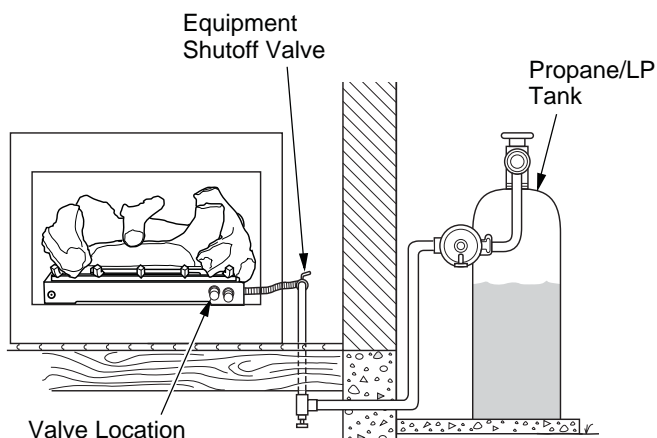
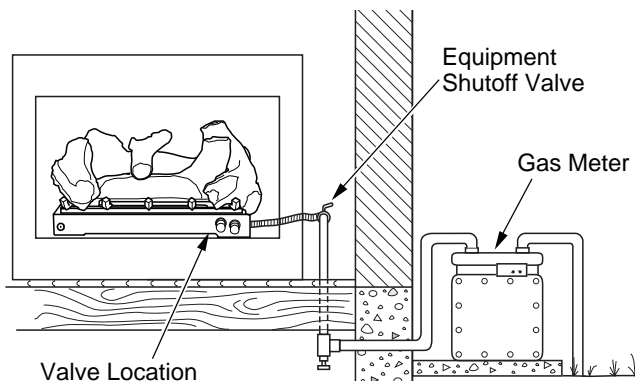

Figure 16 - Checking Gas Joints
Figure 17 - Checking Gas Joints
3. Check all joints from propane/LP supply tank to equipment shutoff valve for propane/LP gas (see Figure 16, page 13) or from gas meter to equipment shutoff valve for natural gas (see Figure 17, page 13). Apply noncorrosive leak detection fluid to gas joints. Bubbles forming show a leak.
4. Check all joints from propane/LP supply tank to equipment shutoff valve for propane/LP gas (see Figure 16) or from gas meter to equipment shutoff valve for natural gas (see Figure 17). Apply noncorrosive leak detection fluid to gas joints. Bubbles forming show a leak.